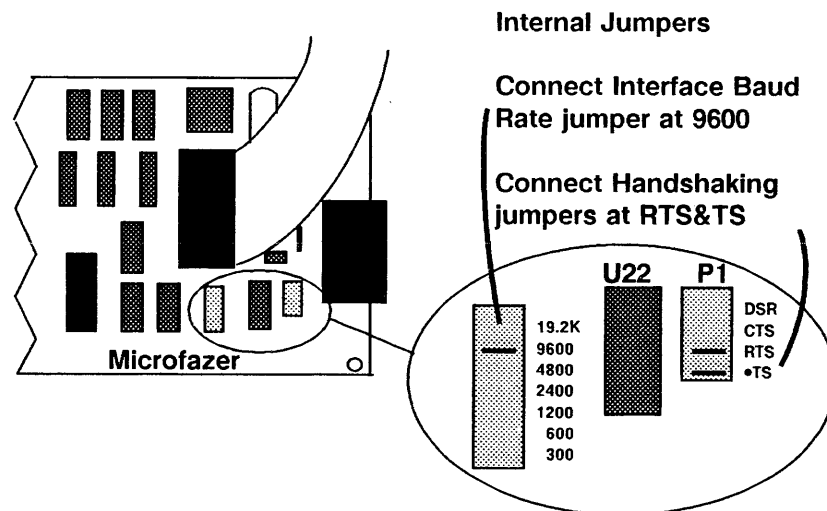

Figure 39. Microfazer Internal Jumpers
1. Check the internal jumpers on the Printer Buffer (Figure 39).
- c. Remove the printed circuit board from the chassis and position it component side up. The end with the ribbon cable should be on the right with "Microfazer" in the lower right corner. (Refer to Figure 39.)